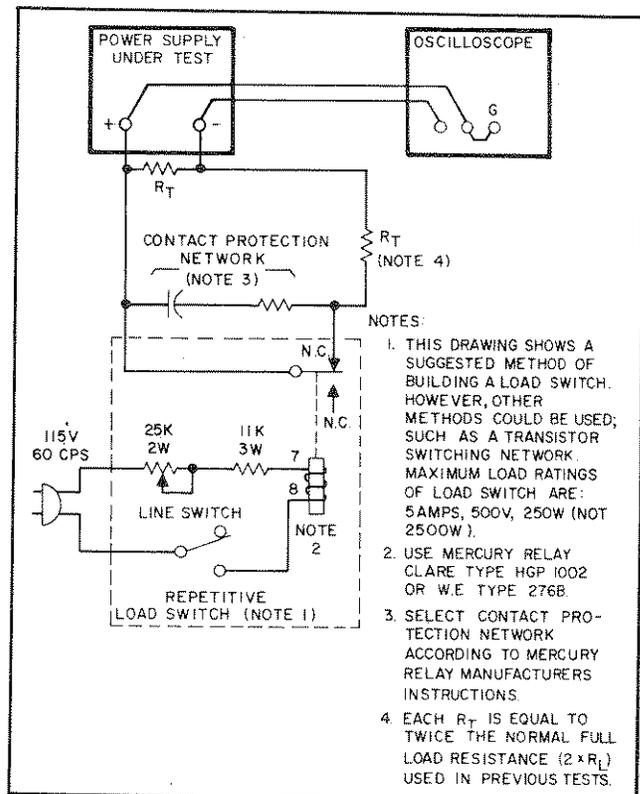

Figure 5-5. Load Transient Recovery Time, Test Setup
5-30 **Measurement Techniques.** Care must be taken in switching the load resistance on and off. A hand-operated switch in series with the load is not adequate since the resulting one-shot displays are difficult to observe on most oscilloscopes and the arc energy occurring during switching completely masks the display with a noise burst. Transistor load switching devices are expensive if reasonably rapid load current changes are to be achieved. Instead, a mercury-wetted relay should be used for loading and unloading the supply. Connect it in the load switching circuit shown in Figure 5-5. When this load switch is connected to a 60 Hz ac input, the mercury-wetted relay will open and close 60 times per second. The 25K control adjusts the duty cycle of the load current switching to reduce jitter in the oscilloscope display. This relay may also be used with a 50 Hz ac input.
- a. Connect the test setup shown in Figure 5-5. Both load resistors (R_T) are twice the normal value of a full load resistance.